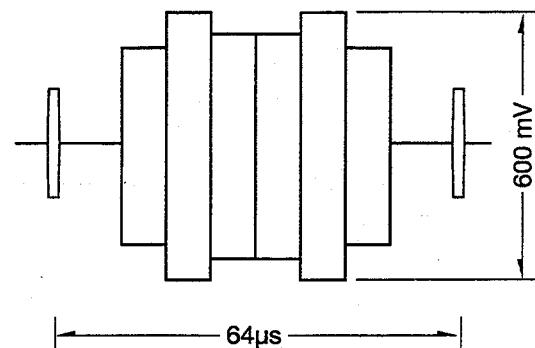

Fig. 9
4. Adjust T802 to the waveform max ($\sim 800\text{mV p-p}$) and then advance, to achieve the waveform for about 600mVp-p , as showed in Fig. 9.